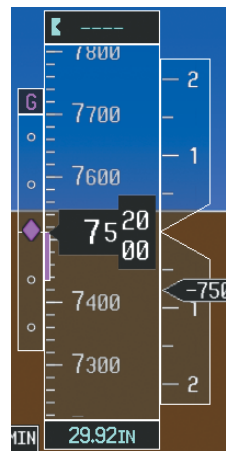

Figure 7-48 Descending to the Missed Approach Point
- 24) After crossing CEGIX, the aircraft continues following the glidepath to maintain the descent to "AT or ABOVE" 6,370 feet at the Missed Approach Point (MAP) (RW35R) as seen in Figure 7-48.